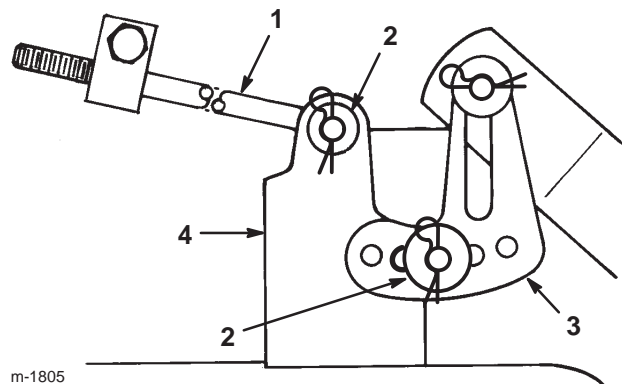

Figure 40
13. Slide the end of the long rod through the hole in the mower mount (Fig. 40).
15. Mount the slotted mower leveling bracket onto the pin on the height-of-cut arm (Fig. 40).